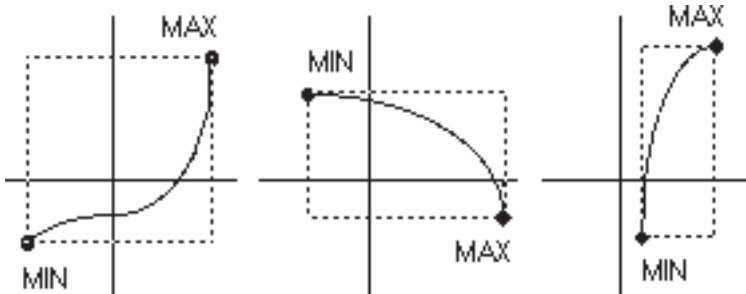

Figure 10. Example of "Rectangular Area".
1) The nonlinear function must be totally enclosed by the rectangular area defined by the minimum and maximum points. Figure 10 gives examples of the "rectangular area".